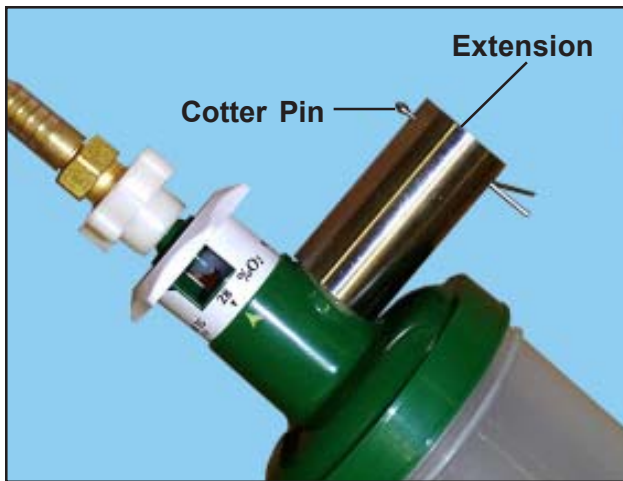

Figure 19. Nebulizer Extension and Cotter Pin
1. On the nebulizer extension, use a needle-nose pliers to squeeze the two ends of the cotter pin together, then remove the pin from the extension (Figure 19).
3. Place the nebulizer in the ice tray with the extension through the opening in the door (Figures 19 and 20).